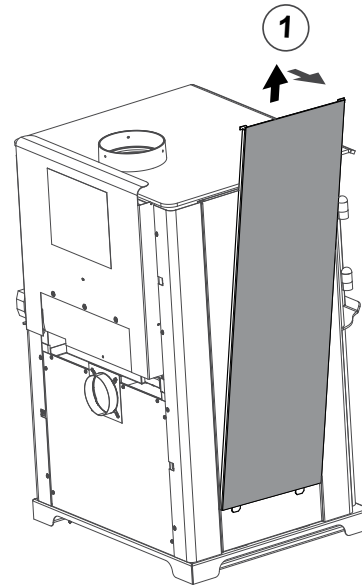

Figure 24.4
- Remove solid panel from side by lifting up and pulling away from appliance (use a flat tool to pry from bottom if needed) (**Figure 24.4**).
- Remove tile frame from side by lifting up and pulling away from appliance (**Figure 24.4** reference **solid side panel removal**).